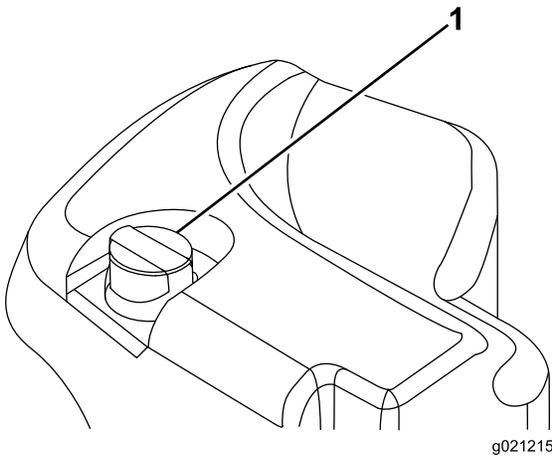

Figure 32
2. Clean area around filler neck and cap of hydraulic tank (Figure 32).